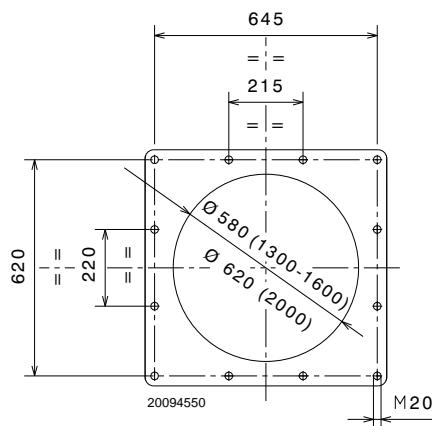

Fig. 15
Pierce the closing plate of the combustion chamber, as in Fig. 15. The position of the threaded holes can be marked using the thermal insulation screen supplied with the burner.
- Insert the entire burner on the boiler hole, previously fitted, as in Fig. 15, and fix it with the screws supplied.